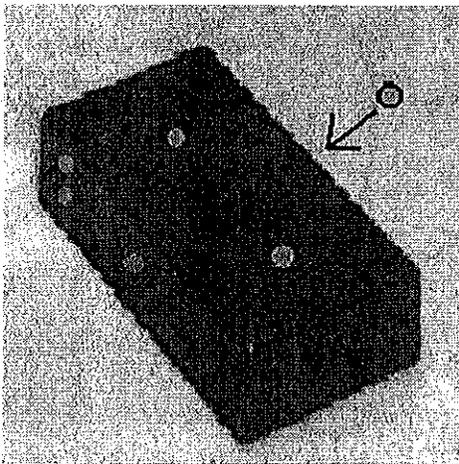

Figure 30: Control Box hole locations
1. Using the marker, mark the locations of the holes on your control box, as shown (approximately) in Figure 30 below. Make sure holes are at least 1/2" away from edges to allow switches to fit inside. There should be one in the center of the back for the power to come in, one in the center of the front for the tether cable to go out, two on the right hand side of the front for the vertical thruster controls, and two on top for the horizontal thruster controls. Make sure that the holes for the vertical thrusters leave enough room for the switches against the sides of the box. Ask your teacher if you are unsure.